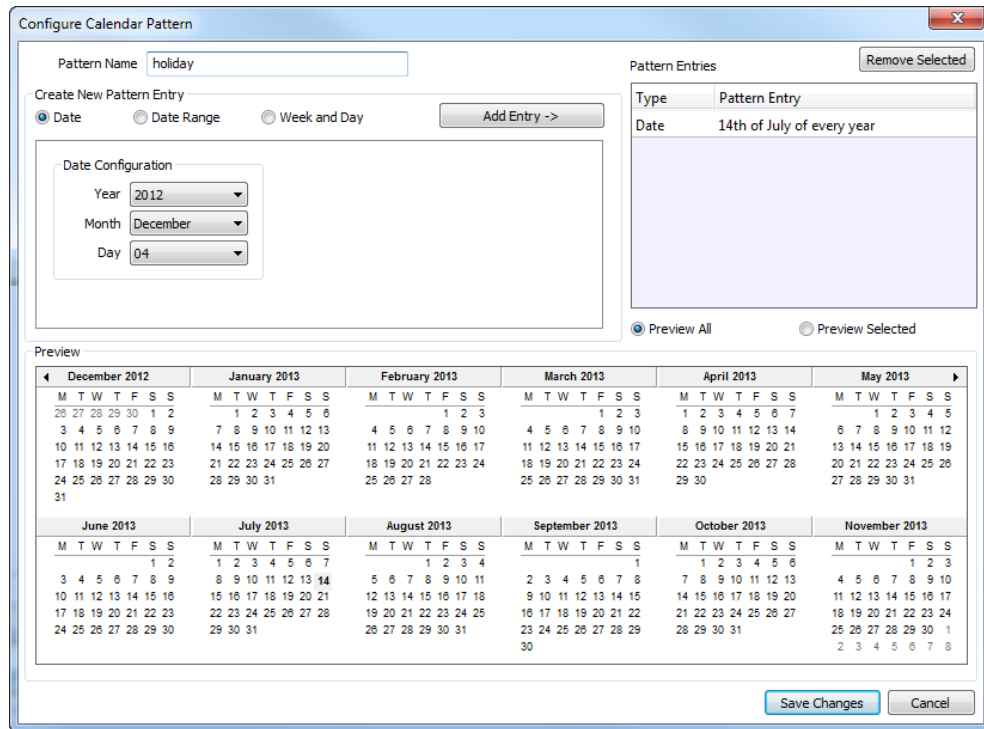

Figure 191: Configure Calendar Pattern Dialog.
3. The **Configure Pattern** dialog appears as shown in Figure 191. Add dates to the calendar pattern by entering a Date Configuration. Then click **Add Entry**. The date appears in the Pattern Entries list on the right-hand side.